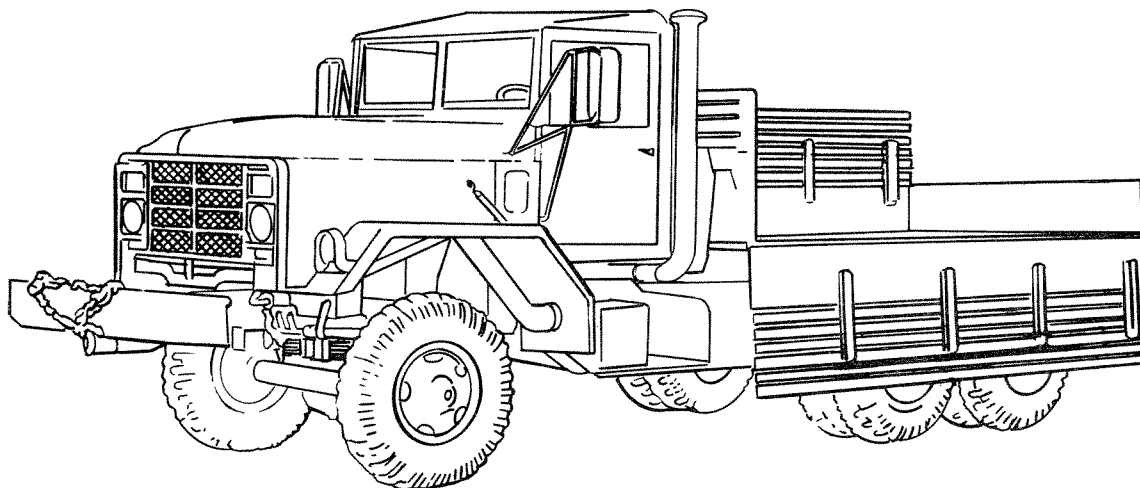

Figure 2-20. M925 Dropside Cargo Truck
d. *M925 Dropside Cargo Truck.* The M925 is a 5-ton, dropside, 6x6, diesel-powered cargo truck used to tow the RAPU and to transport forward support company (FSC) equipment. For more information on the M925 truck, see TM 9-2320-272-10. Figure 2-20 shows the M925 dropside cargo truck.